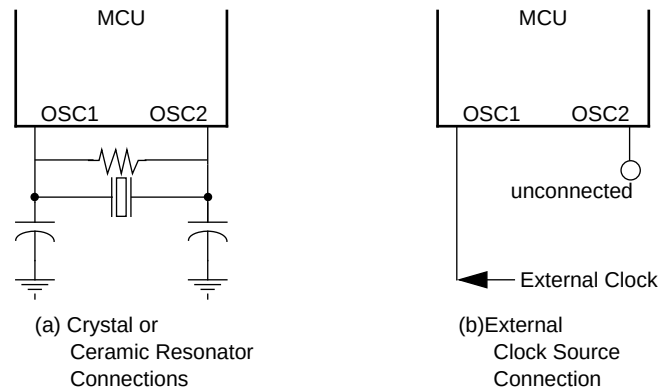

Figure 1-7: Oscillator Connections
1. A crystal as shown in Figure 1-7(a)
2. A ceramic resonator as shown in Figure 1-7(a)
3. An external clock signal as shown in Figure 1-7(b)
The circuit in Figure 1-7(a) shows a typical oscillator circuit for an AT-cut, parallel resonant crystal. The crystal manufacturer's recommendations should be followed, as the crystal parameters determine the external component values required to provide maximum stability and reliable start-up. The load capacitance values used in the oscillator circuit design should include all stray capacitances. The crystal and components should be mounted as close as possible to the pins for start-up stabilization and to minimize output distortion and radiated emissions.
In cost-sensitive applications, a ceramic resonator can be used in place of the crystal. The circuit in Figure 1-7(a) is for a ceramic resonator. The resonator manufacturer's recommendations should be followed, as the resonator parameters determine the external component values required for maximum stability and reliable starting. The load capacitance values used in the oscillator circuit design should include all stray capacitances. The ceramic resonator and components should be mounted as close as possible to the pins for start-up stabilization and to minimize output distortion and radiated emissions.
An external clock from another CMOS-compatible device can be connected to the OSC1 input. The OSC2 pin should be left unconnected, as shown in Figure 1-7(b).